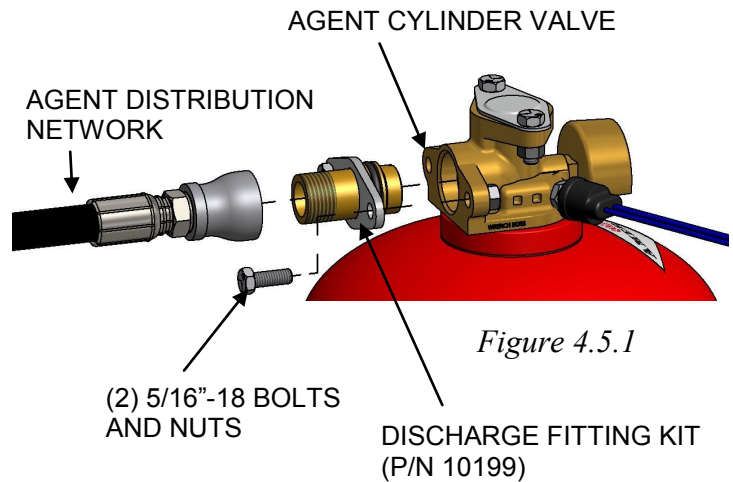

Figure 4.5.1
- After the Cylinder Bracket is installed, vertical Agent Cylinders must be installed with the discharge outlet facing the direction that will allow the Discharge Fitting Kit to be easily connected to the Agent Distribution Network (See Figure 4.5.1). For V150/V250 Agent Cylinders, orient the Agent Cylinder on the Weld Ring such that the Agent Distribution Network can be easily connected to the Agent Cylinder Valve discharge outlet.